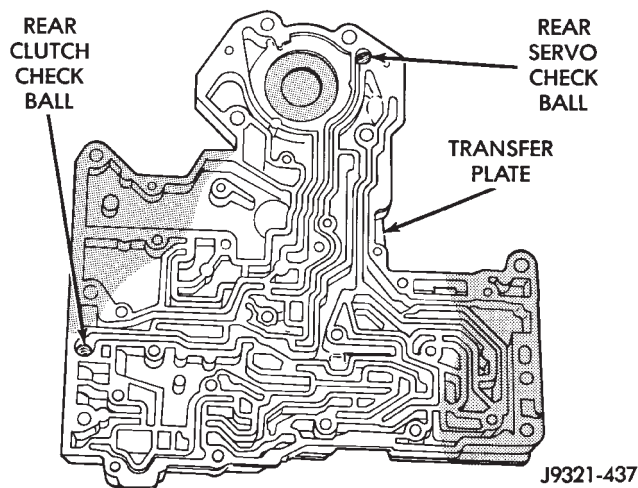

Fig. 118 Rear Clutch And Rear Servo Check Ball Locations
(32) Remove rear clutch and rear servo check balls from transfer plate. **Note check ball location for assembly reference before removing it (Fig. 118).**
- (1) Install rear clutch and rear servo check balls in transfer plate (Fig. 118).